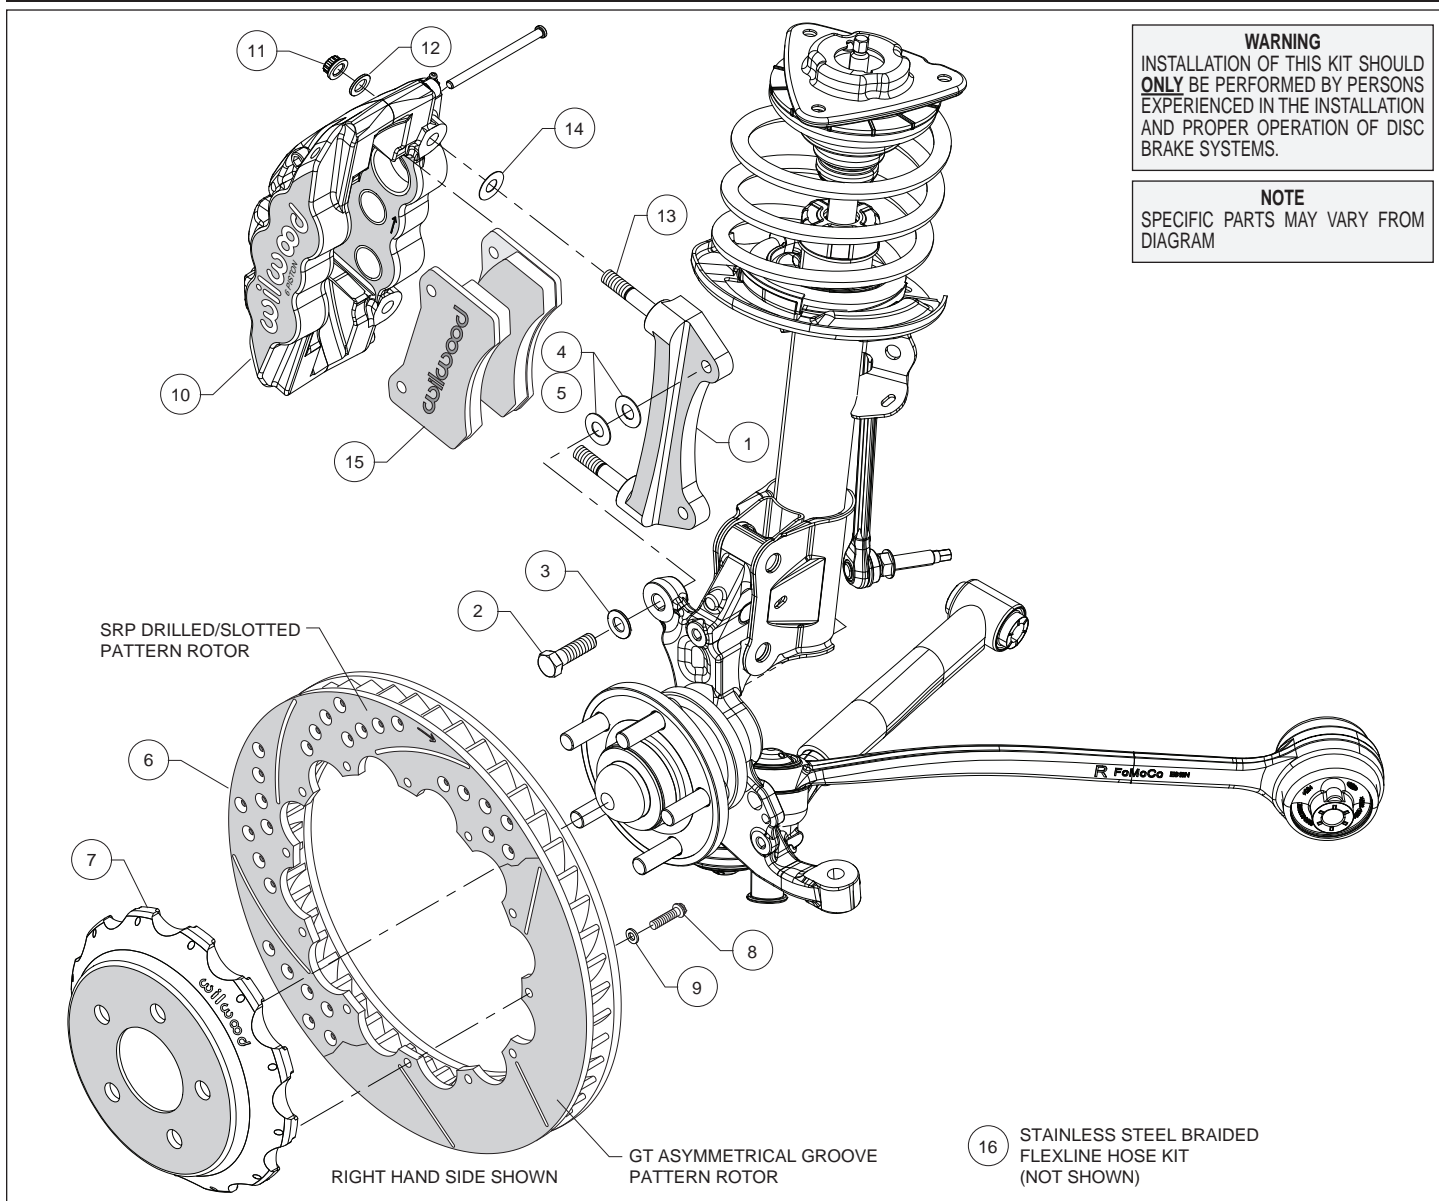
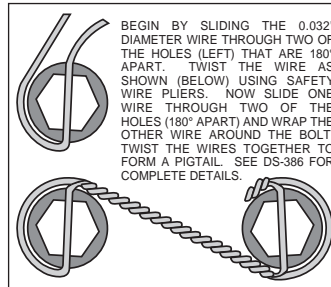

Figure 1. Typical Installation Configuration
Figure 3. Safety Wire Diagram
Assembly Instructions (numbers in parenthesis refer to the parts list and Figure 1 on the preceding pages):
- The caliper mount bracket (1) should initially be installed with clean, dry threads on the mounting bolts. Orient the bracket, as shown in Figure 1 and Photo 1, and install using bolts (2) and washers (3). Initially place two .033" thick shims (4) on each bolt between the bracket and upright, Figure 1. Temporarily tighten the mounting bolts. **NOTE: The bracket must fit squarely against the mount bosses on the upright.** Inspect for interference from casting irregularities, machining ridges, burrs, etc. Later, after the caliper alignment has been checked, the mount bolts will be secured using red *Loctite*[®] 271.
- Orient the rotor (6) and the hat (7) as shown in Figure 1 and Photo 2. Attach rotor to hat using bolts (8) and washers (9). Using an alternating sequence, apply red *Loctite*[®] 271 to the threads, and torque to 155 **in-lbs**. For an added measure of security, the bolts may be safety wired using standard 0.032 inch diameter stainless steel safety wire as shown in Figure 3. Refer to Wilwood's data sheet DS-386 for complete safety wire installation instructions.
- NOTE: This kit contains distinct right and left hand calipers that must be mounted in a specific direction, as described below.** Lubricate the caliper mounting studs (13) with lightweight oil. Initially place one .030" thick shim (14) on each stud between the caliper and the bracket, as shown in Figure 1 and Photo 4. Mount the caliper (10) onto the bracket (1) using lock nuts (11) and washers (12), Figure 1. Temporarily tighten the lock nuts. Ensure that the caliper is mounted so the largest pistons are at the rotor exit end of the caliper, in relation to the direction of the rotor. View the rotor through the top opening of the caliper. The rotor should be centered in the caliper, Photo 5. If not, adjust by adding or subtracting shims (4 and/or 5) between the bracket and the upright. Always use the same amount of shims on each of the two mounting bolts. Once the caliper alignment is correct, remove the bracket mounting bolts one at a time, apply red *Loctite*[®] 271 to the threads, and torque to 60 ft-lbs.
- Remove the two pad retaining pins from the caliper (10) by carefully popping out the pin retaining clips and sliding out the pins. Insert the brake pads (15) into the caliper from the bottom, Figure 1 and Photo 6. With the friction material facing the rotor, secure the brake pads in place with the pad retaining pins and clips, Photo 7. Reinstall the caliper onto the caliper mounting bracket and temporarily tighten the lock nuts. Check that the top of the brake pad is flush with the outside diameter of the rotor, Photo 8. If not, adjust by adding or subtracting shims (14) between the caliper and the bracket. After the caliper pad height is set, torque the caliper lock nuts (11) to 47 ft-lb.